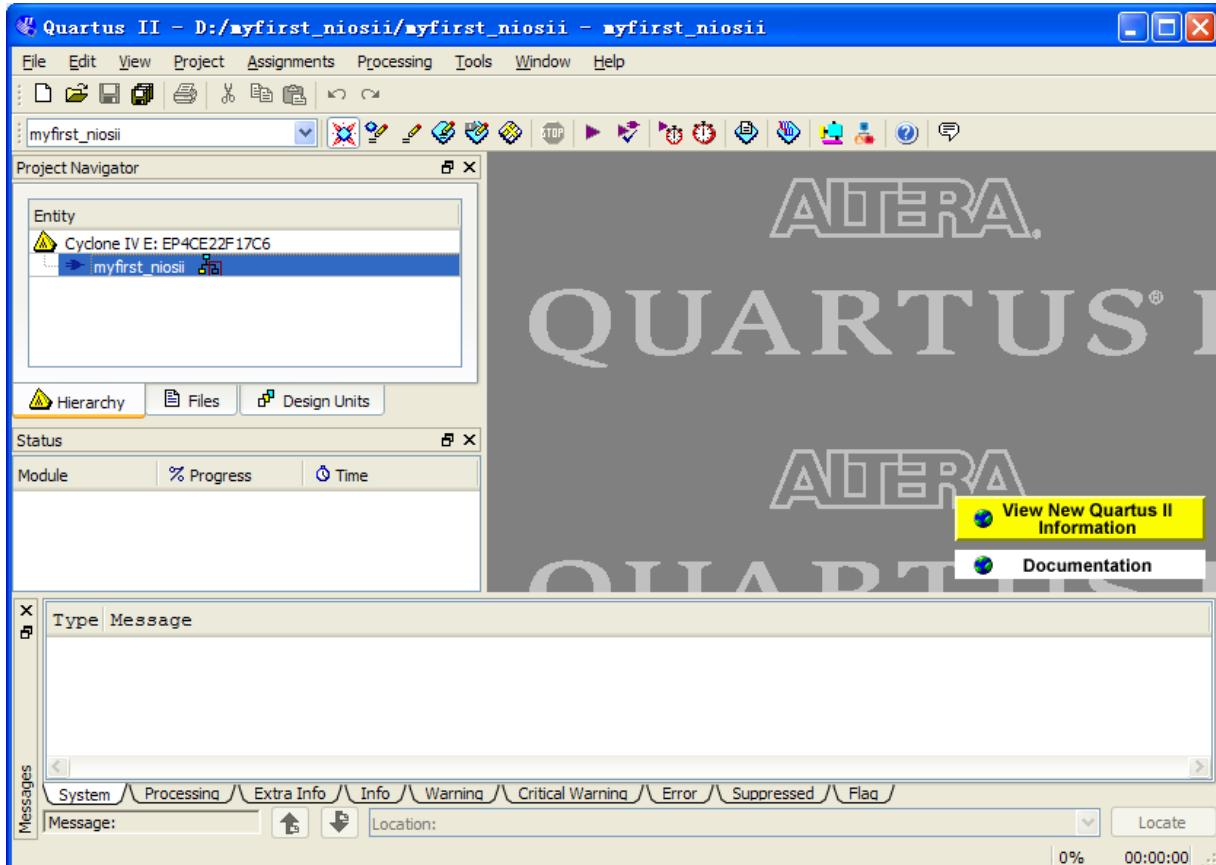

Figure 7-39 Return to Quartus II after exiting SOPC Builder
24. Click **Exit** to exit the SOPC Builder and return to the window as shown in **Figure 7-39**.